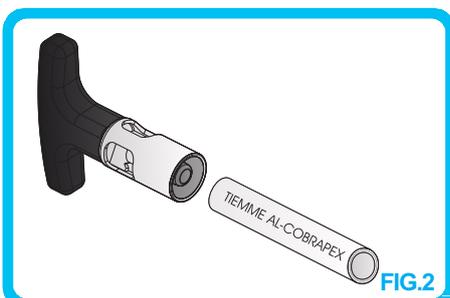

FIG.2
*- Then, trim and calibrate the tube by using the tool indicated in fig. 2. Insert the gauge into the pipe, then alternately turn it in a clockwise and in a counter-clockwise direction.*